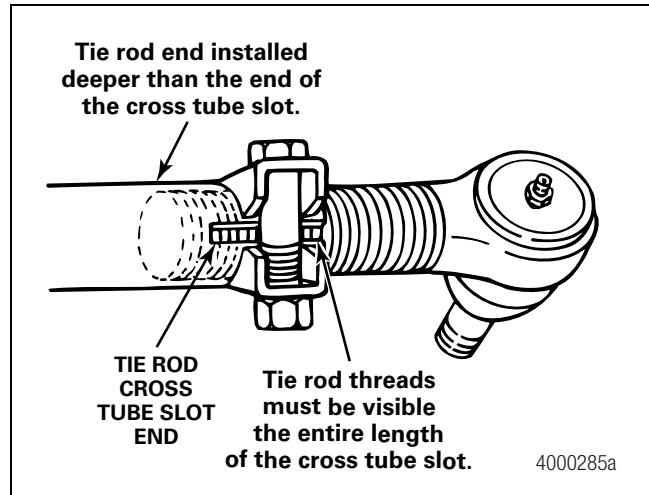

Figure 6.21
6. Check that the tie rod end is threaded correctly into the cross tube and installed deeper than the end of the cross tube slot. The tie rod end must be visible the entire length of the cross tube slot. Figure 6.21.